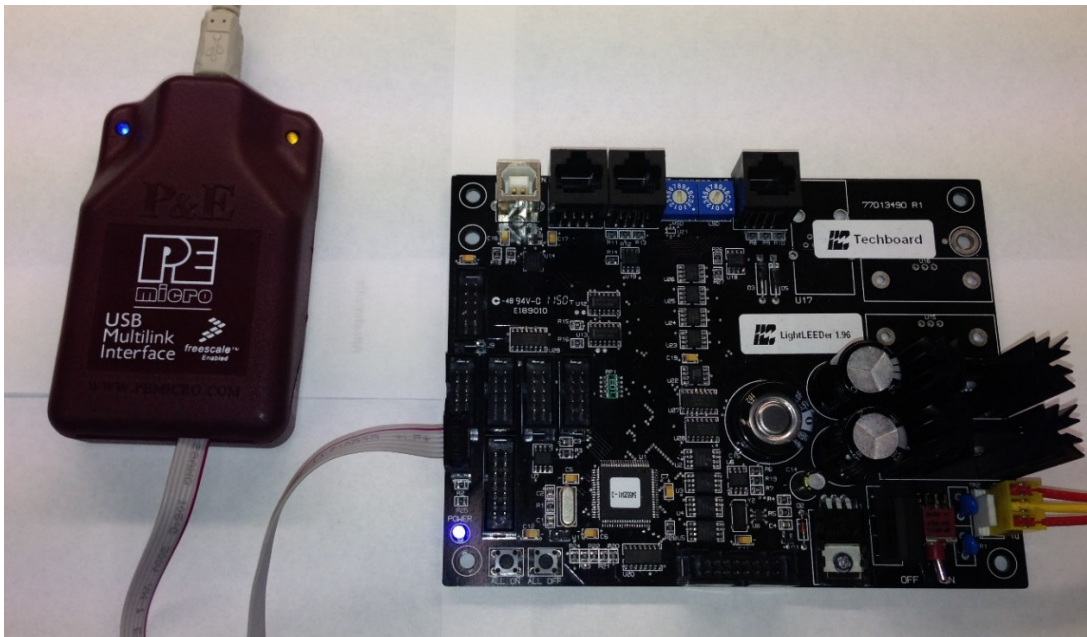

Figure 2
- 1) Plug the USB cable into your computer. Connect the other end of the USB cable to the PE micro programmer. The blue LED on the PE micro programmer should turn on, see Figure 2.
- 3) Power up the LightLEEDer control board to be programmed. The yellow LED on the PE micro flash programmer should light up, see Figure 2.